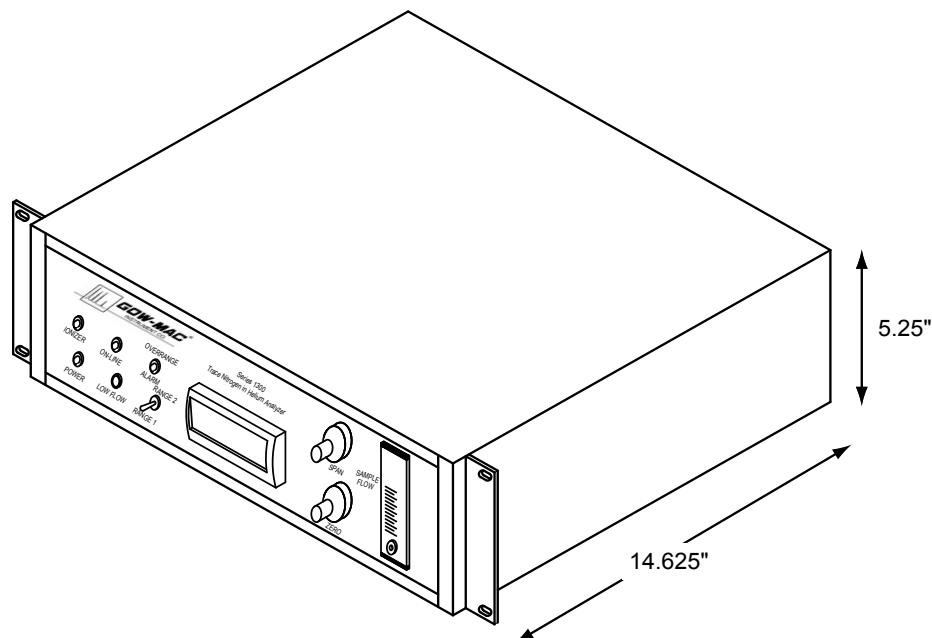

Figure 3-1: Series 1300 Analyzer Dimensional Drawing
- 5-1/4-inches (13.3 cm) of 19-inch rack space, as shown in Figure 3-1